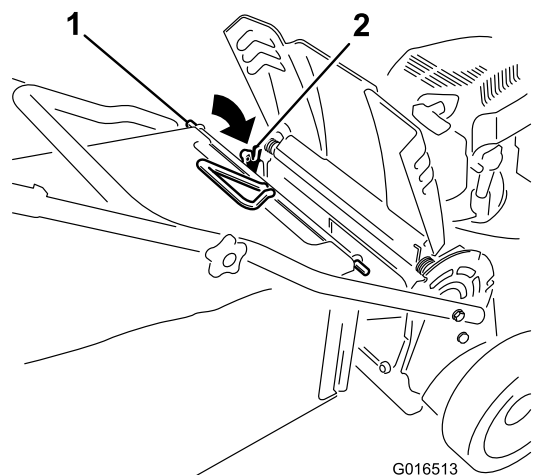

Figure 27
3. Install the bag rod into the notches at the base of the handle and rock the bag back and forth to ensure that the rod is seated at the bottom of both notches; refer to Figure 27.